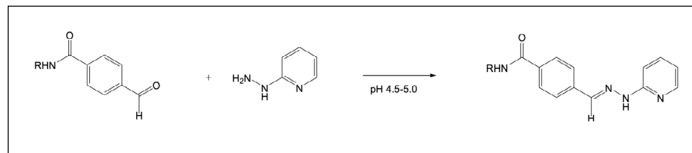

Figure 2: Colorimetric reaction used to quantify the number of 4FB linkers on a biomolecule.
- 1. The molar substitution ratio (MSR) can be determined using a colorimetric reaction outlined in Figure 2. Addition of 2-hydrazinopyridine to a 4FB-modified biomolecule yields a bis-aryl hydrazone that absorbs at 350 nm. Refer to the 4FB-Protein MSR Calculator or the 4FB-Oligonucleotide MSR Calculator as well as the protocol that is appropriate for your lab equipment: 4FB Oligo MSR Instructions or 4FB Protein MSR Instructions.